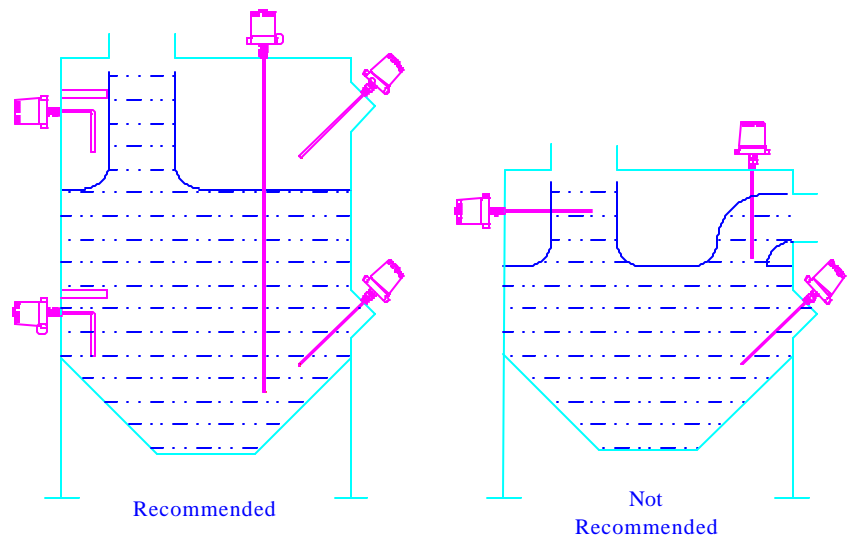

FIGURE 2-1 Typical Mounting Locations
- Figure 2-1** Typical Mounting Locations
Mounting positions for the Series 200 system should be carefully considered. The probe may be installed vertically, horizontally or angled, but should not be located where the inflow of material could contact it as this could cause false or sporadic relay actuation. Side mounted level probes are typically mounted at a downward angle to allow the measured material to drain or fall from the electrode surface. Vertically mounted level probes must be clear of agitators and other obstructions within the vessel. Figure 2-1 illustrates typical mounting locations.